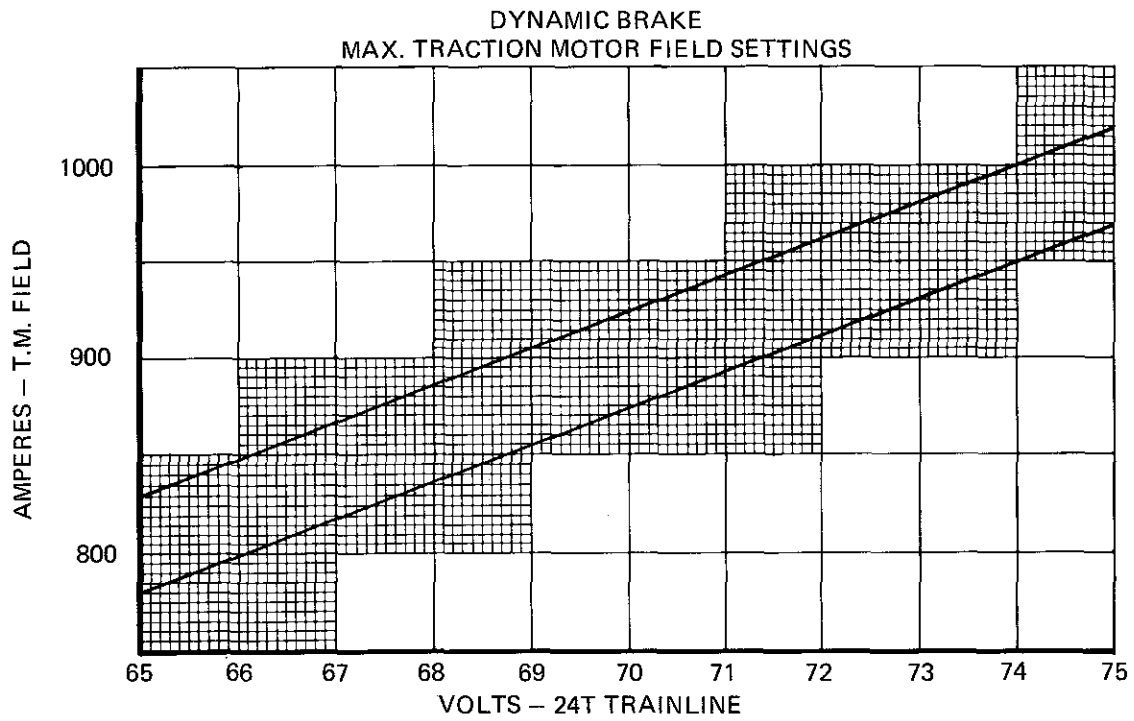
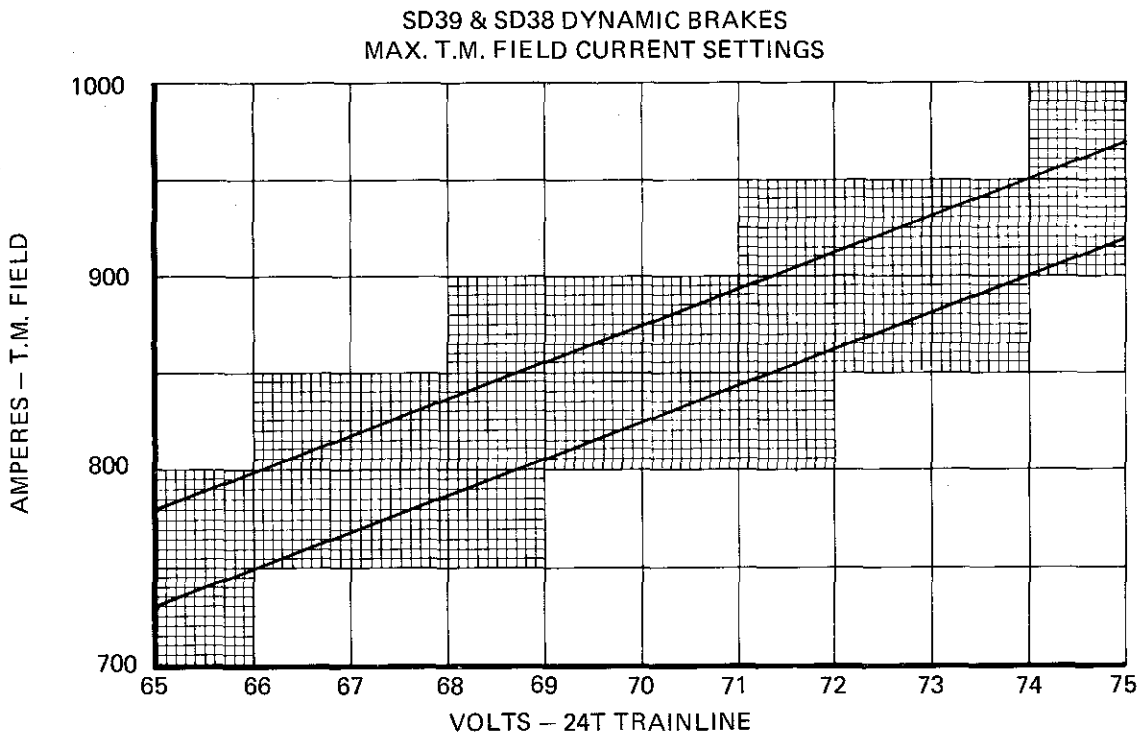

Fig. 1
Fig. 2
The procedure amounts to first checking and resetting (if necessary) the dynamic brake potential line voltage. The second section is for calibrating LOR, IRR and DRR relays. The graphs, Figs. 1, 2, 3, and 4, must be used for references when calibrating the extended range system.
8. With the BF fuses in place set up the unit for dynamic brake and place throttle in maximum brake position. Observe 24T voltage and Traction Motor Field Current and adjust RH3 using Fig. 1 so that setting is within the graph limits. Return throttle to idle when completed.
4. With the GF fuses in place, set up the unit for dynamic brake and place throttle in maximum position. Observe 24T voltage and T.M. Field Current and adjust RH3 [R8 on SD(P)45, F(P)45, and SD40 with PCP] using Fig. 1 (Fig. 2 for SD39 and SD38 with single field D32). Return throttle to idle when completed.